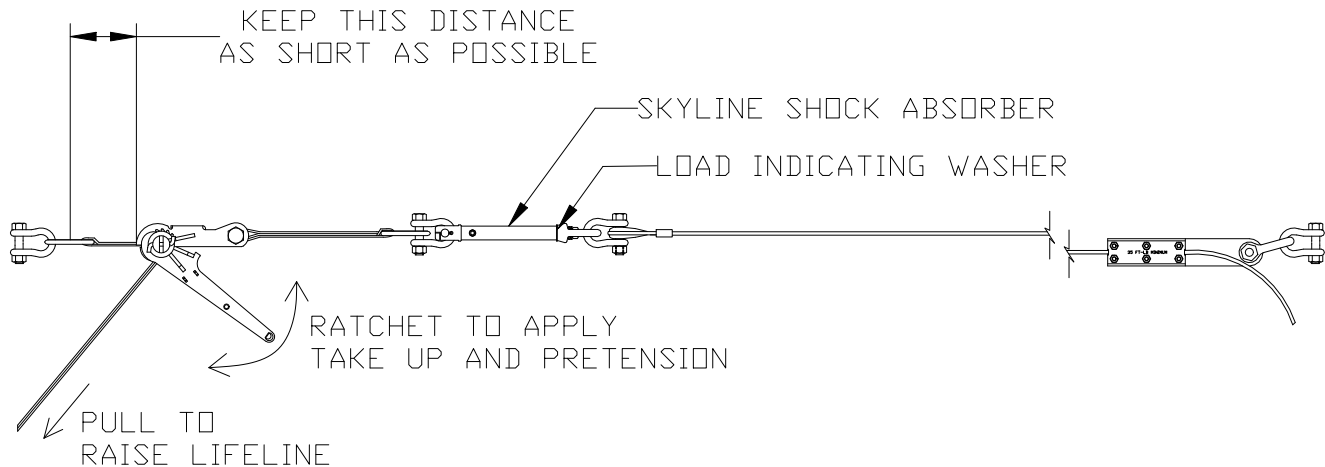

Figure 5
18. Tighten the ratchet load binder until the line tension just releases the load-indicating washer of the shock absorber to spin free. This washer is located just under the eye of the shock absorber (see Figure 5). A freely spinning washer indicates that the cable has been pre-tensioned to 1000 lbf.